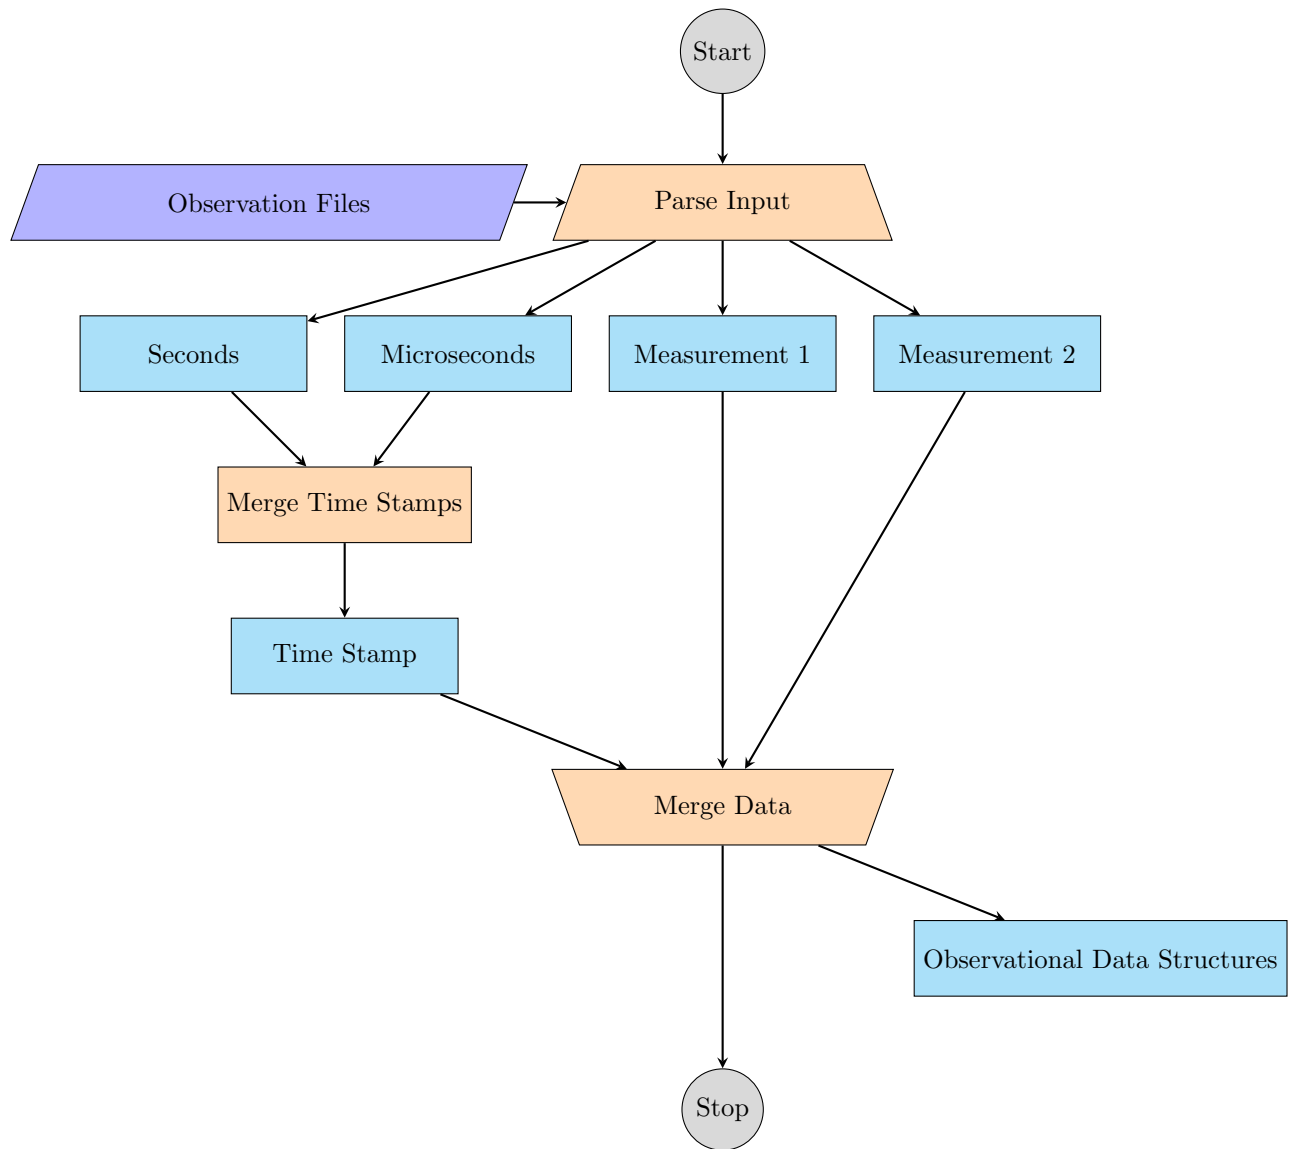

Figure 2: Data I/O Process
- 1) Parse Input: Takes in the columns of data with space delimiting input saving the first column to "Seconds", second column to "Microseconds", and each subsequent observation column into a Measurements vector. In Figure 2 we see the structural flow for an 2-parameter data set such as Velocity Observations where Velocity would be Measurements 1 and Turn Rate would be Measurements 2.